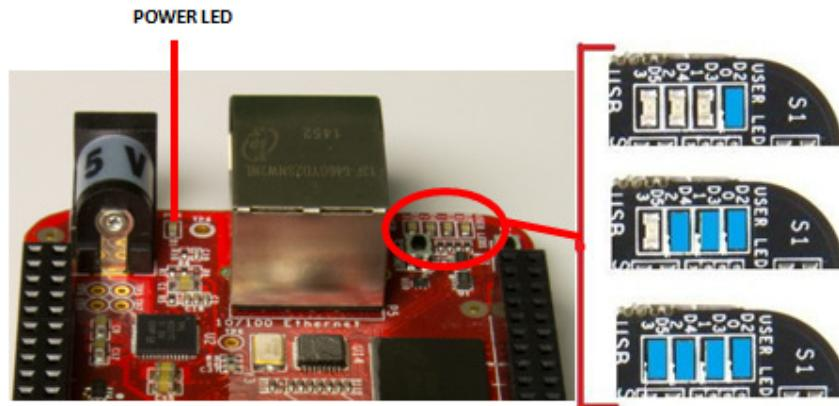

Figure 5      Board Boot Status
4. When the board starts to the booting process started by the process of applying power, the LEDs will come on in sequence as shown in **Figure 5** below. It will take